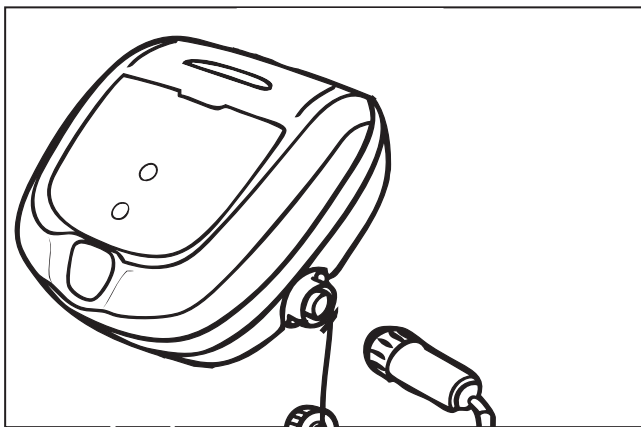

Figure 19. Unplug
3. Unplug power to the cleaner at the control unit (Figure 19).